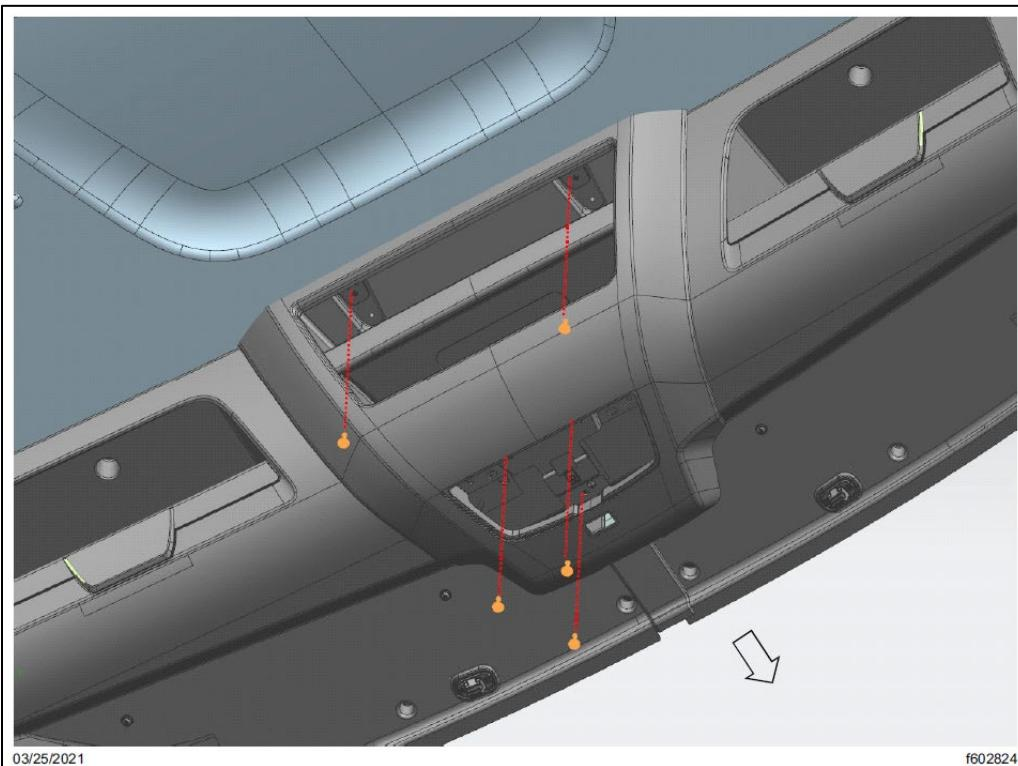

Fig. 15, Day Cab Center Bezel Removal
2.2. Remove the five fasteners that attach the center bezel to the center storage bin, and then remove the center bezel from the vehicle. See **Fig. 15**.